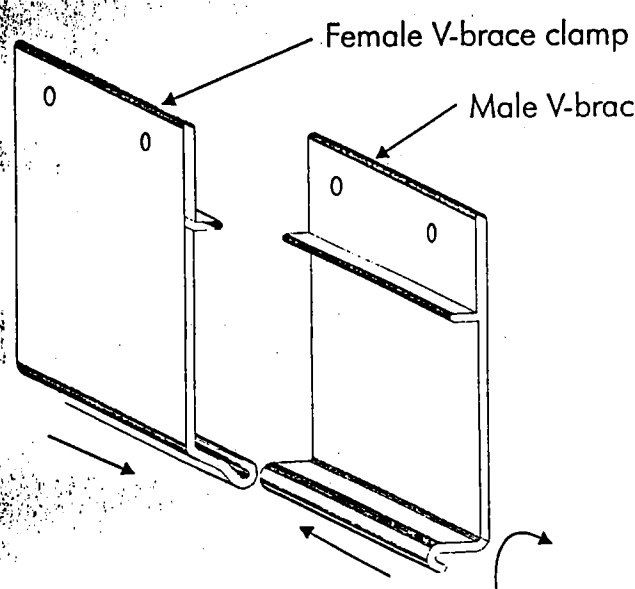

Fig. 3A
- ❑ Slide the two v-brace clamps together and center on the Side Frame Beam. (Fig 3A).